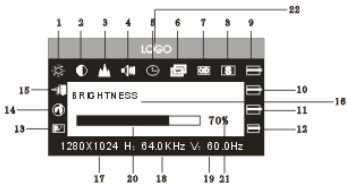

Fig.7
3.4.2 The meaning of the menu in DVI mode(Fig.7)